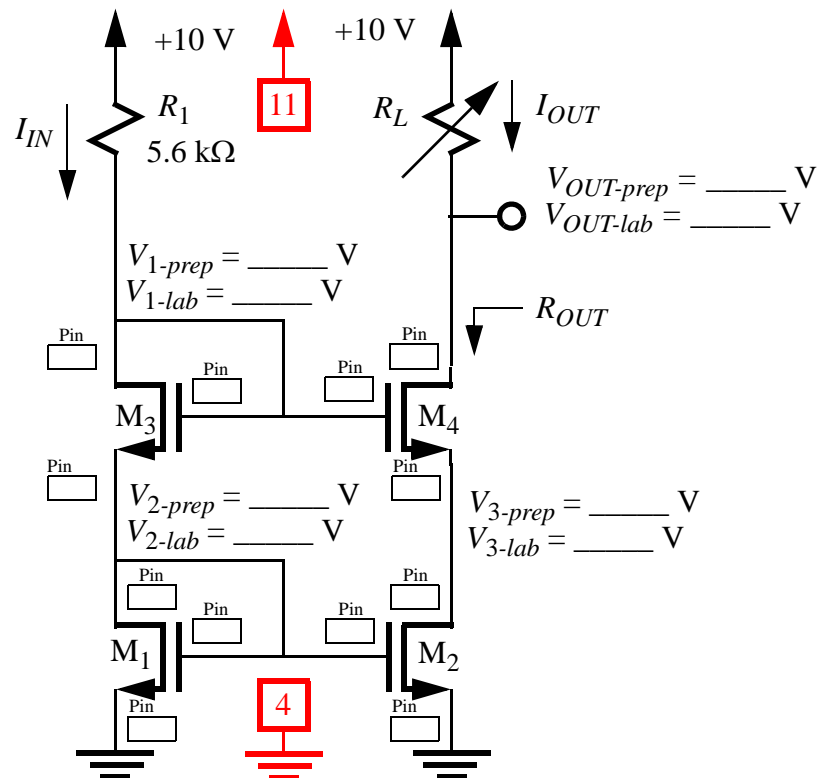

Figure 7) Lab version of Fig. 3 (a cascode current mirror).
1. Construct a cascode current mirror and verify its operating point. To do this, power down your circuit. Then, remove the PMOS current mirror. Create a cascode mirror by changing the position of  $M_3$ , adding  $M_4$  to your circuit and changing the value of  $R_1$ , as shown in Fig. 7. Power up your circuit and verify that your circuit analysis is correct by measuring the node voltages and recording them on Fig. 7.